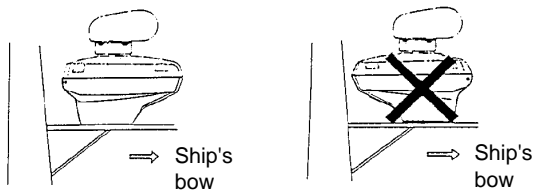

Figure 6-11 How to orient the antenna unit
3. Place the antenna housing on the mounting platform and orient it as shown in Figure 6-11.